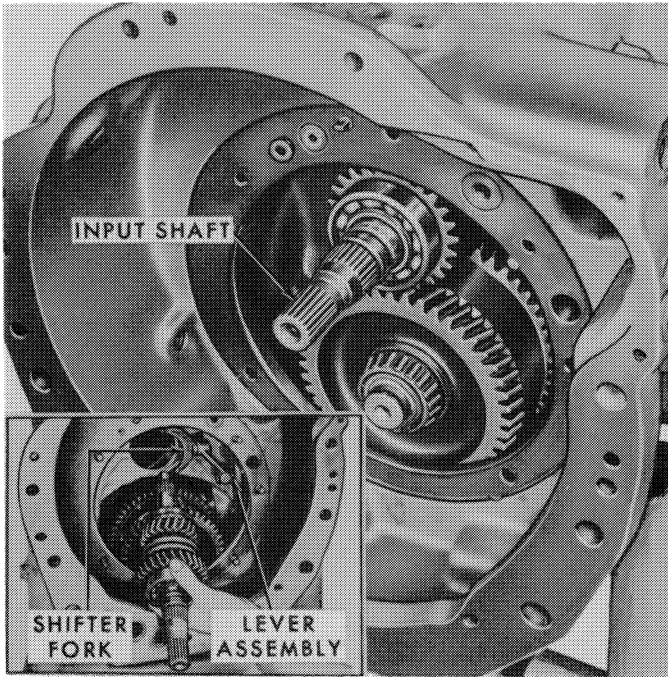

Figure 69
3. With the P.T.O. shift lever in the 1000 rpm position, remove the input shaft by tapping it forward. Refer to Figure 69.